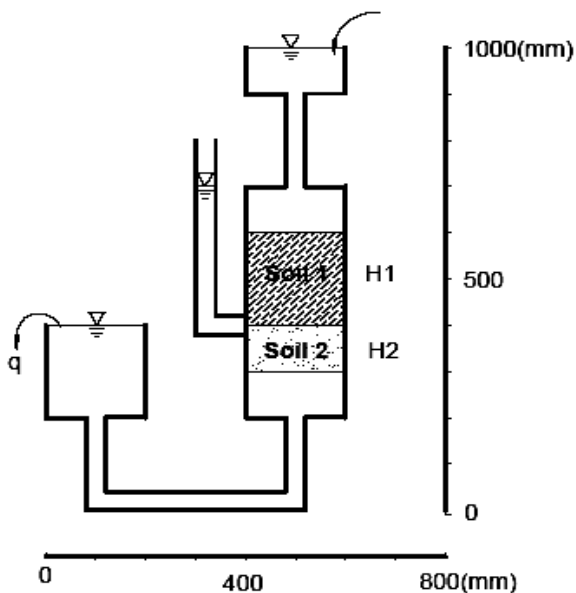

Figure 1.
1. If the flow out is  $200 \text{ mm}^3/\text{sec}$  in figure 1, find  $K_1$  and  $K_2$